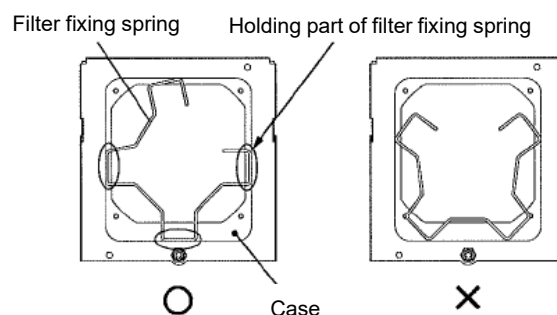

Figure 2 Attaching position of filter fixing spring
- Attach holding part of filter fixing spring at 3 points tightly as shown in below Figure 2.